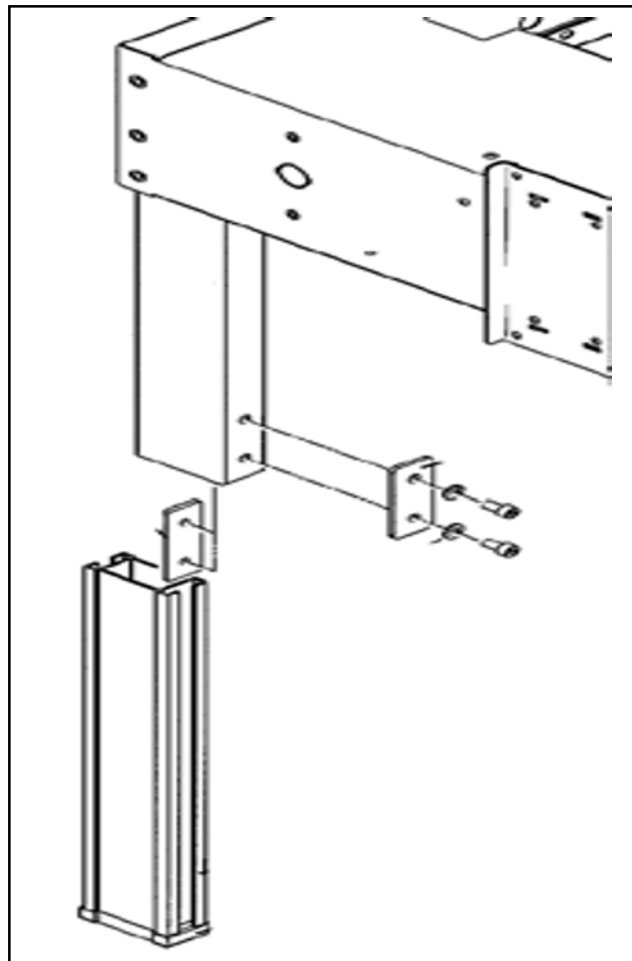

Figure 2-10—Machine Bed Height Adjustment
2. Using a 6 mm hex wrench, loosen the socket head screws that hold the inner leg assembly to the machine as shown in Figure 2-10.